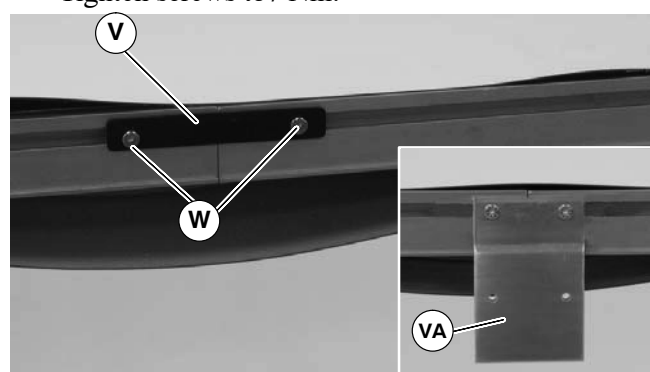

Figure 7
4. Join conveyor sections and install frame connector plates (V of Figure 7) or connector/mount brackets (VA) and screws (W) on both sides as indicated. Tighten screws to 7 Nm.